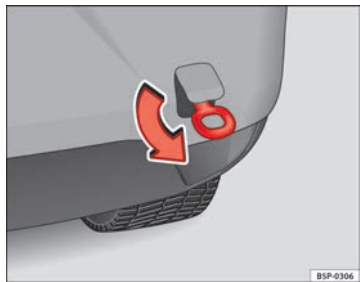

Fig. 208 Fitting the towing eye to the rear of the vehicle
- Screw the towing eye as shown by the arrow *anti-clockwise* to the limit position in the front ⇒ fig. 207 or rear ⇒ fig. 208 threaded hole. ■